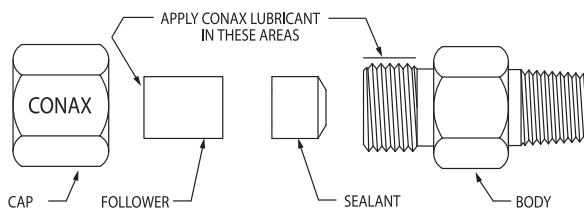

Figure 2
1. Apply a small amount of lubricant, tear drop equivalent, in two to three places, equally spaced, to the top of the follower. Do not allow the lubricant to directly contact the sealant or the elements you are sealing. Refer to Figure 2.
2. Apply a single line of lubricant to the full length of the straight thread on the fitting body. Refer to Figure 2.